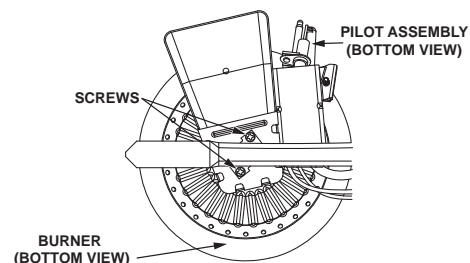

FIGURE 24.
1. Take off the burner by removing the two (2) screws located underneath the burner.
2. Check the burner to see if it is dirty or clogged. The burner may be cleaned with soap and hot water (Figure 24). **IMPORTANT:** DO NOT remove the orifice.
2. Remove the burner to access the pilot/thermopile assembly. Remove and keep the screws securing the burner to the manifold (Figure 24). **IMPORTANT: DO NOT** remove the orifice.
8. Using the pilot screw removed earlier, attach the new pilot/thermopile assembly. Reattach the burner to the manifold using the screws removed earlier. **NOTE:** Make sure the burner scoop is oriented to the pilot side of the manifold tube (Figure 24).